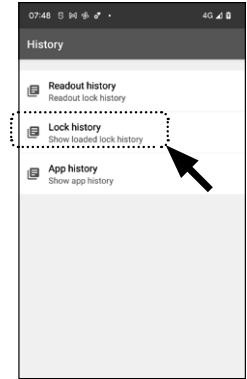

Fig. 94
- 9 Go back one step in the menu and tap on the item "Lock history" (Fig. 94).